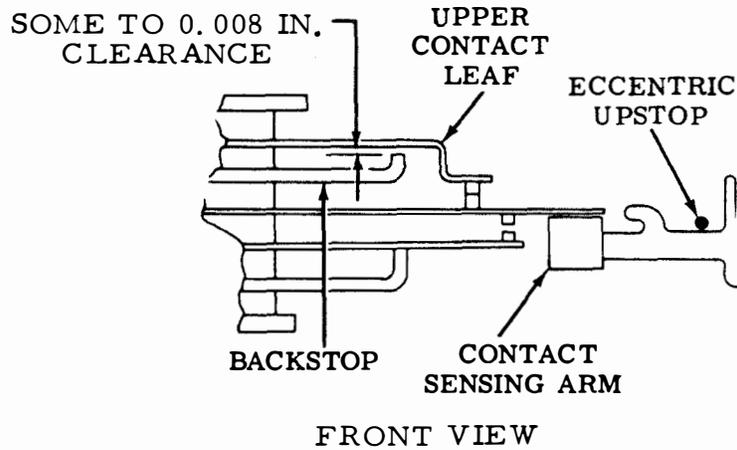

Figure 6-59. Contact Sensing Arm - Upstop Clearance
(7) Contact Sensing Arm - Upstop Clearance. Adjust contact sensing arm - upstop clearance as follows:
- (a) Refer to figure 6-59.